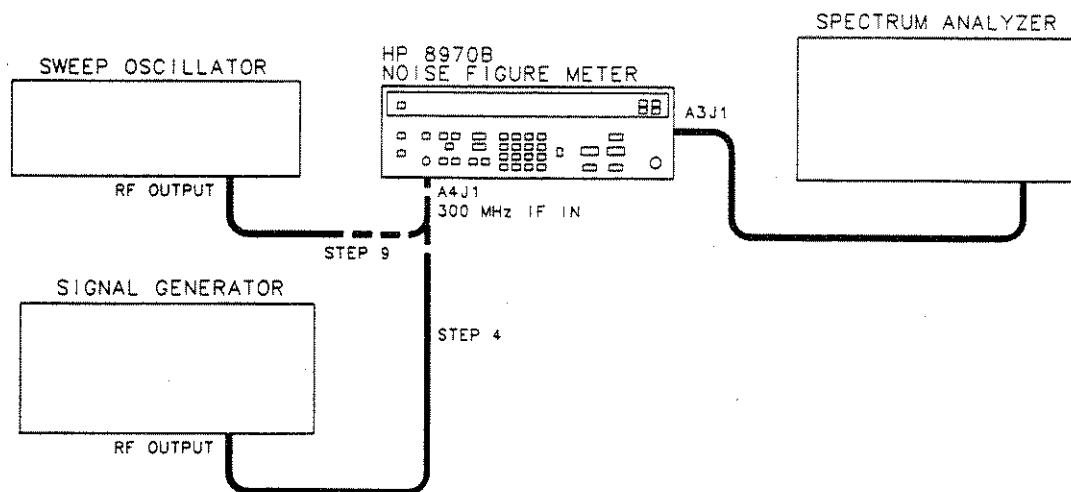

Figure 5-2. 300 MHz IF Bandpass Filter Adjustment Setup
4. Connect the equipment as shown in Figure 5-2. Turn on the equipment. Note that an error display on the Noise Figure Meter is normal when the signal path is broken.
- Disconnect the signal generator, and connect the sweeper to A4J1 (300 MHz IF IN). (See Figure 5-2.)